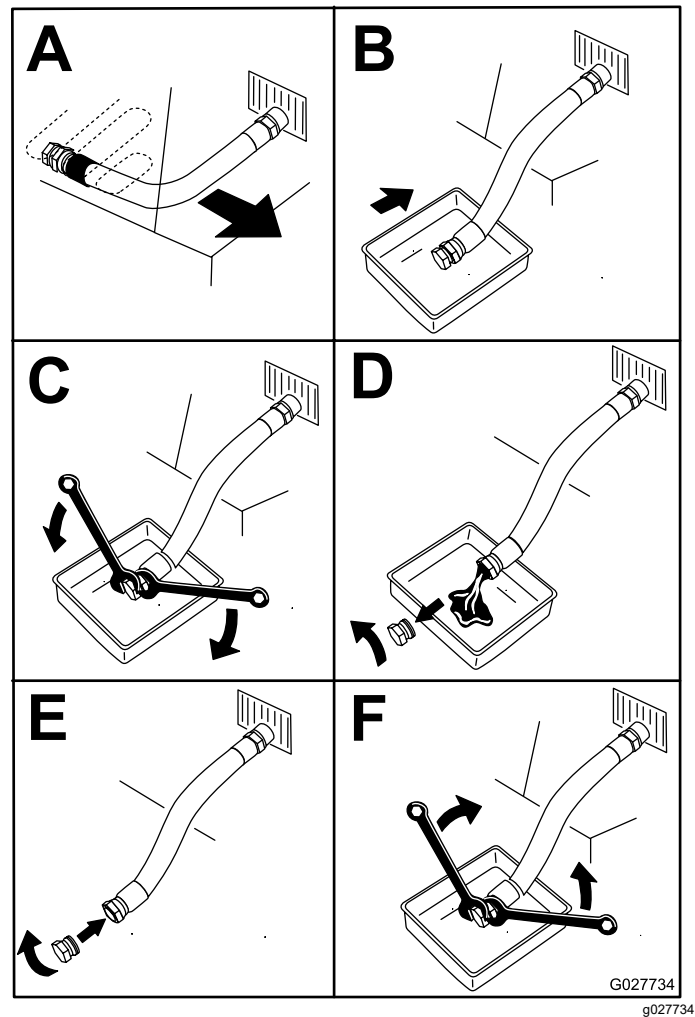

Figure 46
5. Drain the oil from the engine (Figure 46).